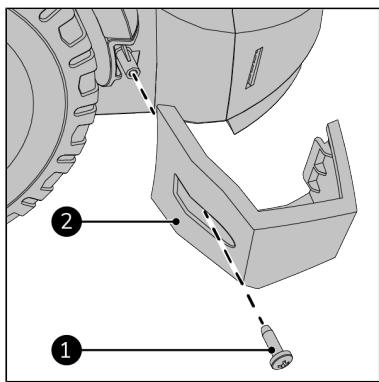

Figure 29.
1. Hook the jet gun holder (Figure 29, pos. 2) onto the main body.
3. Attach the jet gun holder (Figure 29, pos. 2) to the main body with a ST4.8x24 screw (Figure 29, pos. 1).